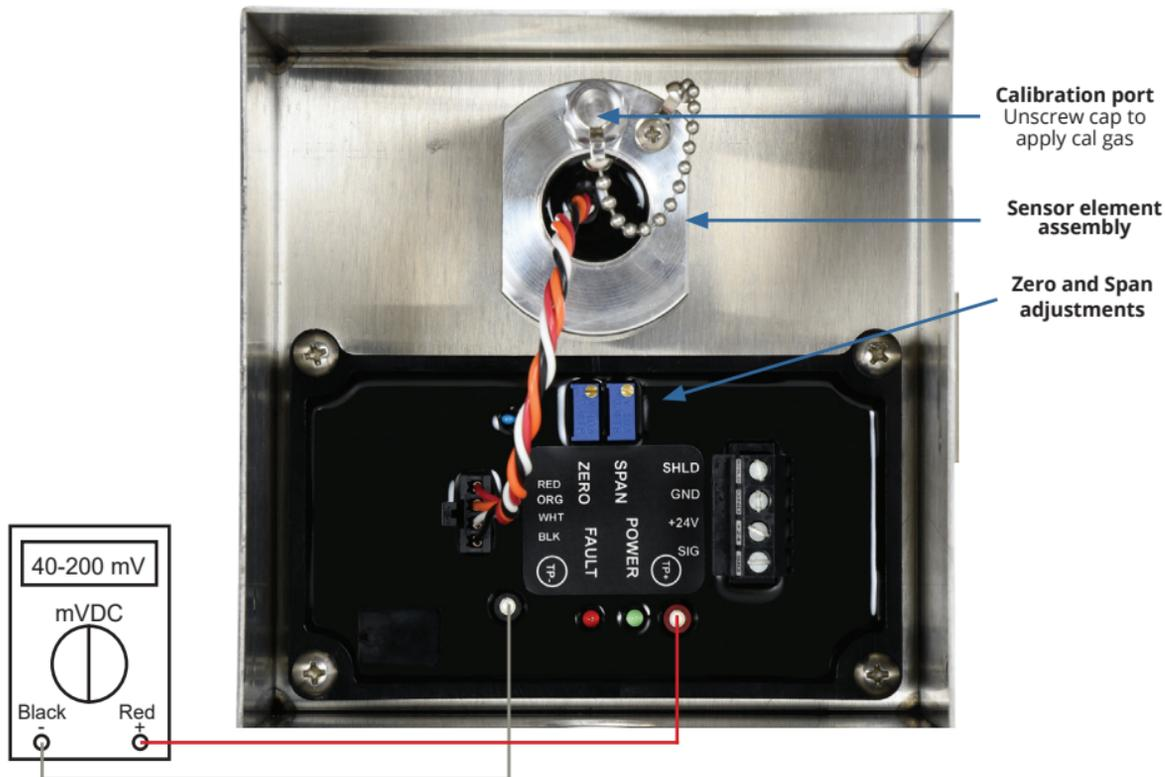

Figure 3: Sensor Output and Zero/span Adjustments
- Adjust the zero pot until the detector outputs 40 mV from Test [-] to Test [+] (see **Figure 3**).
- Unscrew calibration port cover and connect cal gas hose to hose barb fitting (see **Figure 3**).
- Once the output signal has peaked (or two minutes maximum) adjust the span pot until the sensor outputs 200 mV from Test [-] to Test [+] (see **Figure 3**).
Sensor Element Replacement: When the sensor element becomes faulty, a replacement sensor element can be obtained from CTI. To replace the sensor element, refer to **Figure 3** and the following procedure.